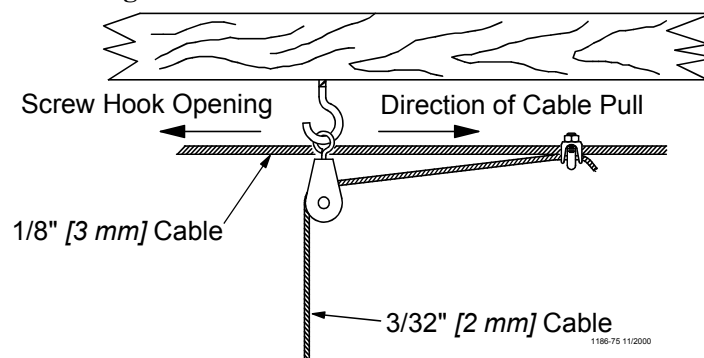

Figure 3. Screw Hook Installation
Screw the threads all the way in to prevent bending. The opening of the hooks must point away from the direction the cable pulls. See **Figure 3**.
3. After the Screw Hooks or Ceiling Hooks have been secured to the trusses, install the pulley assemblies as shown in **Figures 3 & 4**. Make sure the Screw Hooks or Ceiling Hooks are pointing in the proper direction (opposite the winch).